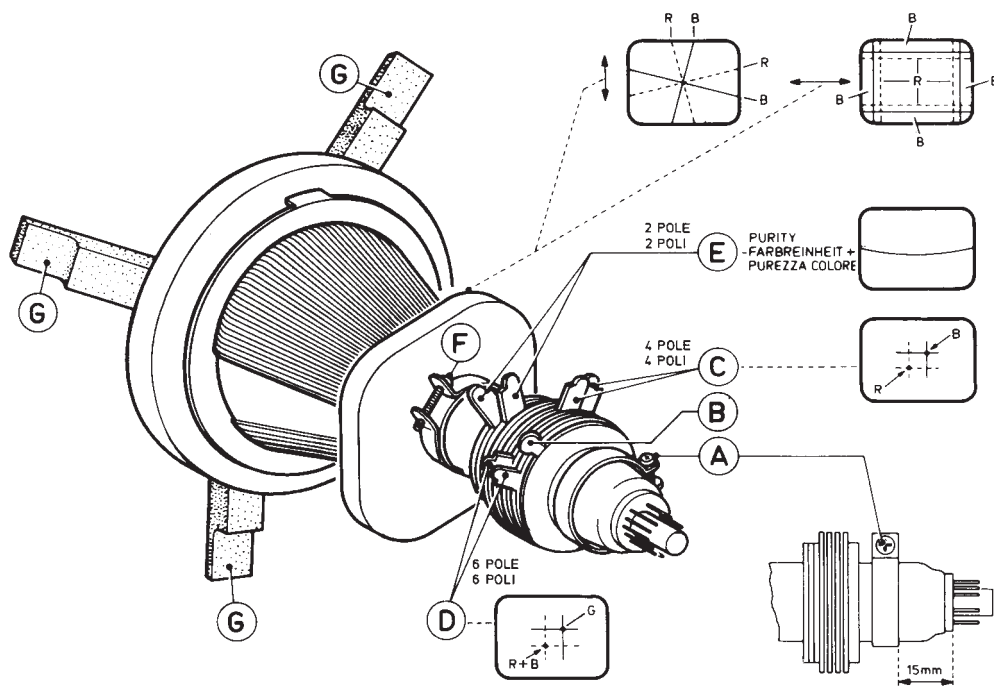

Fig. 3
The instructions for adjusting colour purity and convergence described below should be used only if the tube is replaced or when full adjustment is necessary in any other cases. Even when the deflection yoke is replaced, it is not necessary to move the rubber wedges ("G" in Fig. 3). Small corrections can be made using the multipole unit.
I. Colour purity. (Fig. 3)
II. Static convergence (Fig. 3).